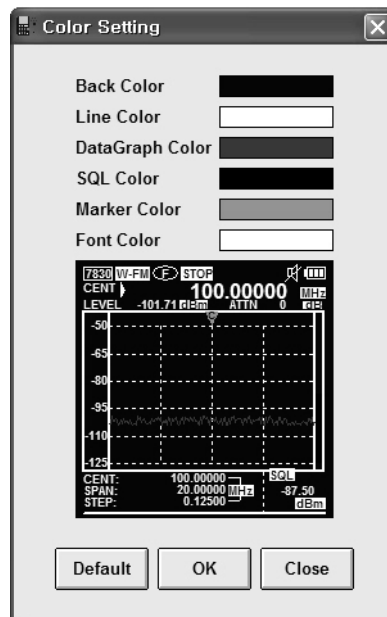

Figure 4.15. Graph Color Setting window
- 2) Main menu setup → select graph color as figure 4.15 executes graph color setting.